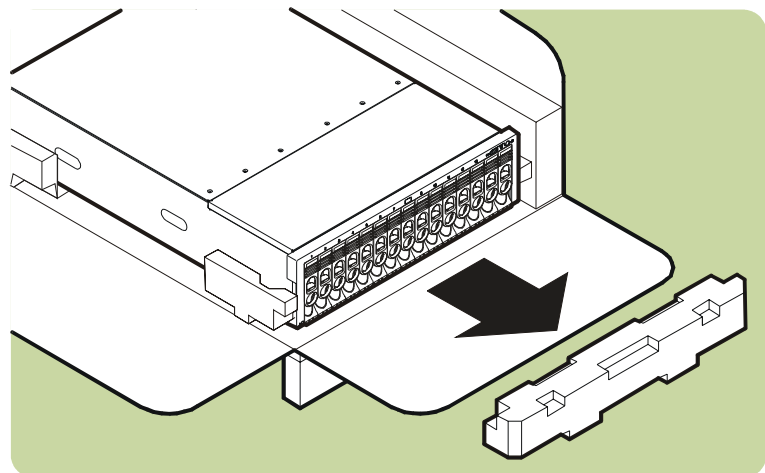

Fig. 6. Removing the foam disk drive cover
3. Remove the foam packaging from the front of the array (see Fig. 6).